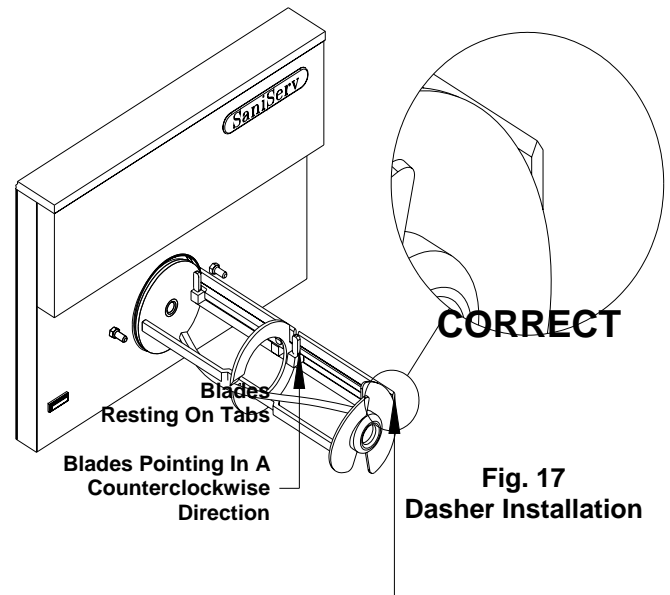
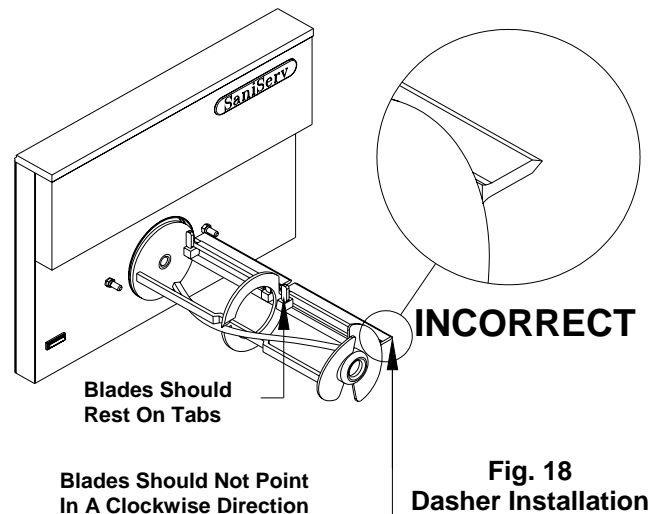

Fig. 17
Fig. 18
- f. Insert the dasher assembly into the freezing cylinder as far as possible (Fig. 17) being careful not to damage the scraper blades. Damage will occur to the scraper blades and the dispenser will not operate properly if the scraper blades are installed facing in a clockwise direction (Fig. 18).
Note: The stator rod has been deleted from Fig. 17 and Fig. 18 for clarity only. The stator rod must be installed for proper machine operation.